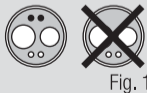

Fig. 1
- This coupling can connect with a hose with light and ISO Standard 4 hole.(Fig.1) If it connects with a hose without light function, the light terminal will deform and it will become a cause of failure.